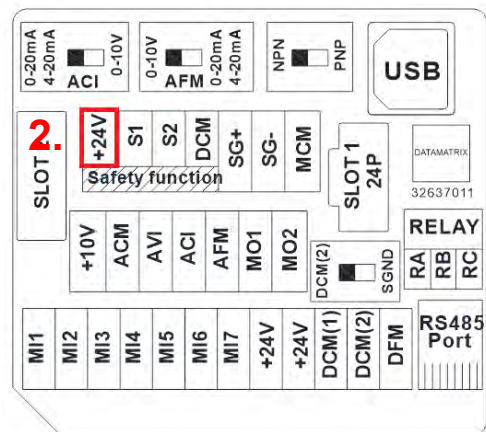

Figure 6-7
2. The +24V of safety function is for STO only, as shown 2. in Figure 6-7 and cannot be used for other purpose.